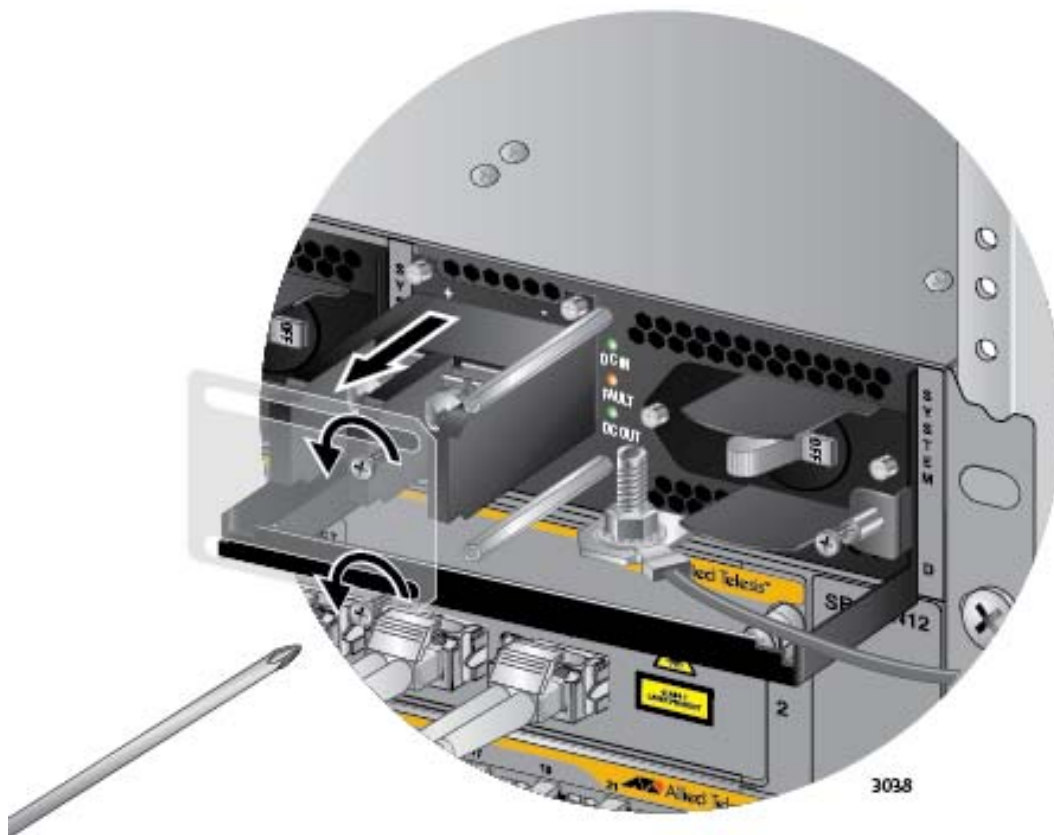

Figure 120. Removing the Plastic Cover
4. Using a #1 Phillips-head screwdriver, remove the two screws that secure the plastic cover over the positive and negative terminals and remove the plastic cover from the power supply, as shown in Figure 120. You may need to lift the locking handle slightly to access the bottom screw.